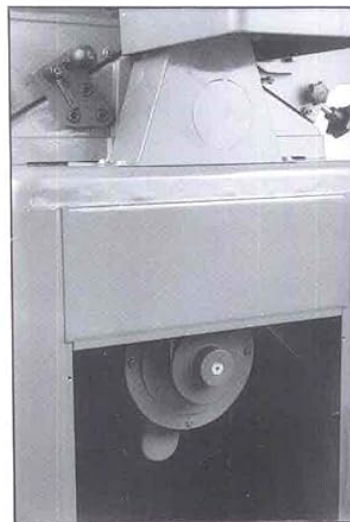

Fig. 16
3. Attach the guard to the stand using four 1/4-20 x 1/2" pan head screws and four 1/4" flat washers (Fig. 16).
To install the belt guard, refer to Figure 16 in the previous image and follow these instructions:
3. Attach the guard to the stand using four 1/4-20 x 1/2" pan head screws and four 1/4" flat washers (Figure 16).